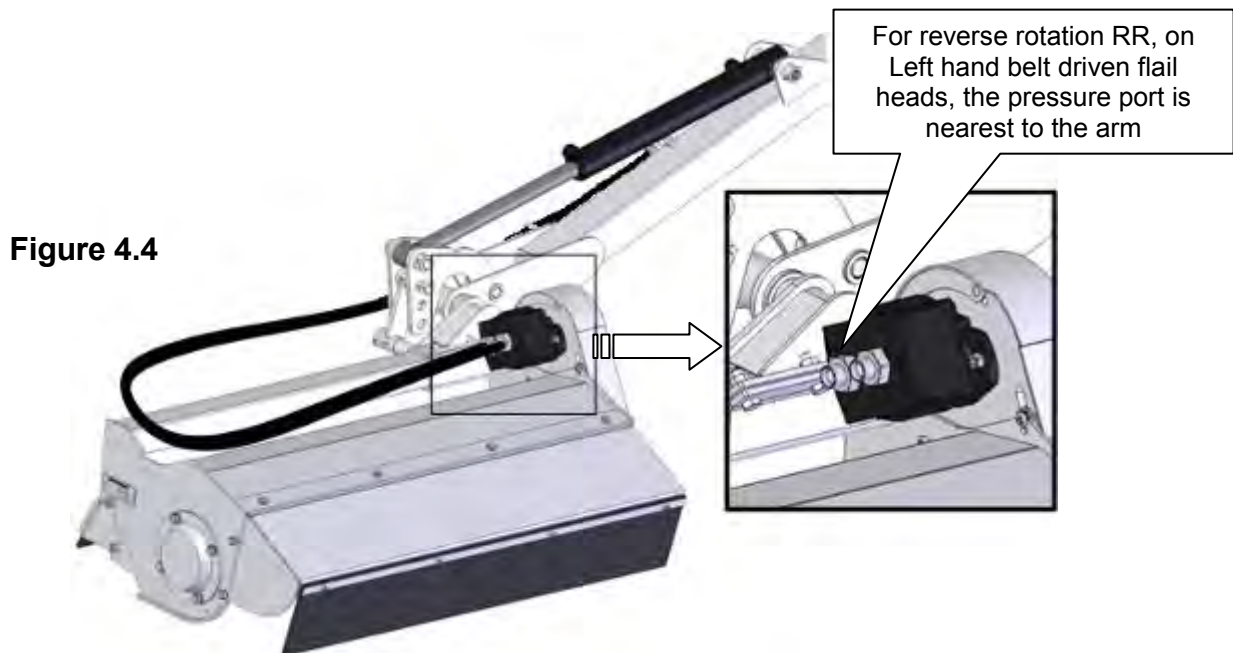

Figure 4.4
To connect a belt drive flail head in reverse rotation (RR) see figure 4.4.